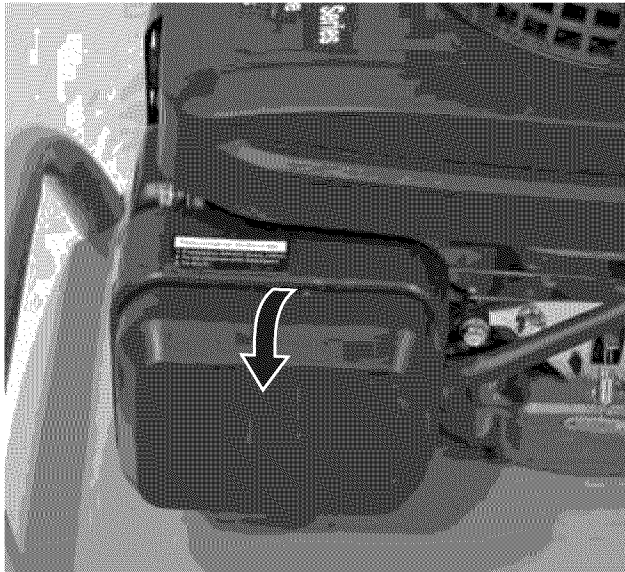

Figure 56 – Removing Air Cleaner Cover
3. Push down on the air cleaner cover to disengage the cover from the top tab (*see Figure 56*).